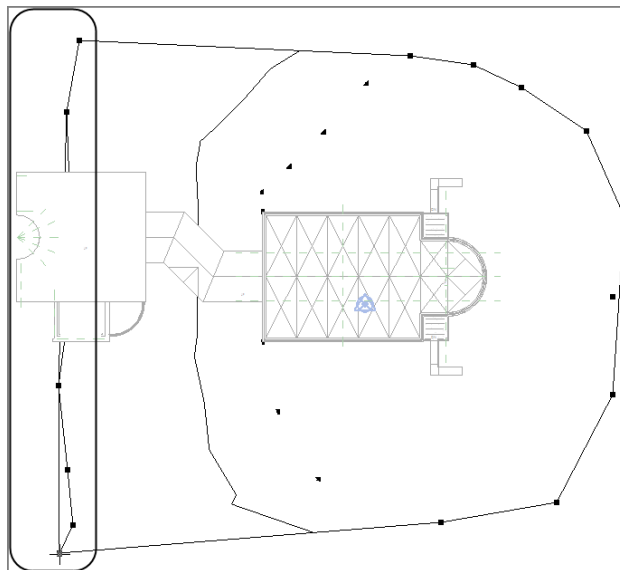

FIGURE 18.3: Adding the second contour to the site
8. Pick five or six points in a line, similar to Figure 18.3.